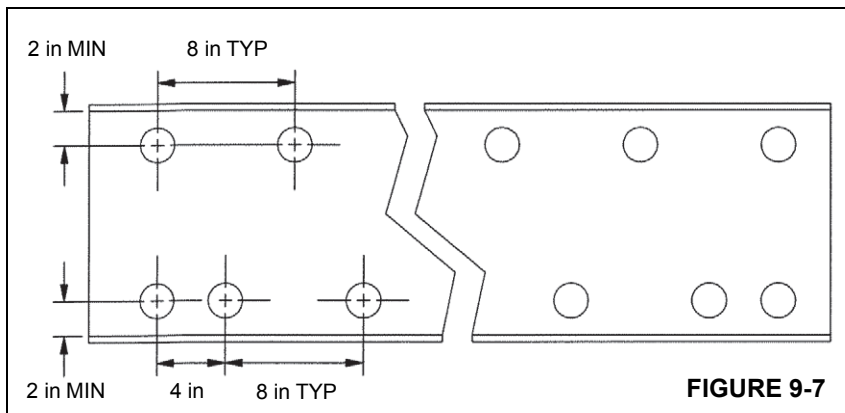

FIGURE 9-7
See Figure 9-7 for recommended drilling and bolting procedure. Use 5/8, Grade 8 bolts, drill holes to 39/64 diameter, drive fit bolts and properly tighten accordingly. See "Fasteners and Torque Values" on page 1-7.
8. If reinforcing angle is to be bolted on, drill hole pattern and install bolts according to Figure 9-7. Reinforce spring hanger cut outs and the weld area, suspension